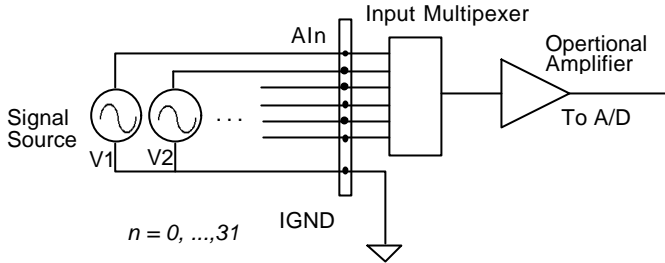

Figure 4.1 Signal sources and single-ended connection
The single-ended (SE) mode means the voltage signal to be measured is relative to the isolation ground (IGND) and is suitable for connecting with the *floating signal source*. The floating source means the signal source have no connection to real ground or to PC's ground. Figure 4.1 shows the single-ended AI signal connection. Note that when more than two floating sources are connected, the sources must have common ground.